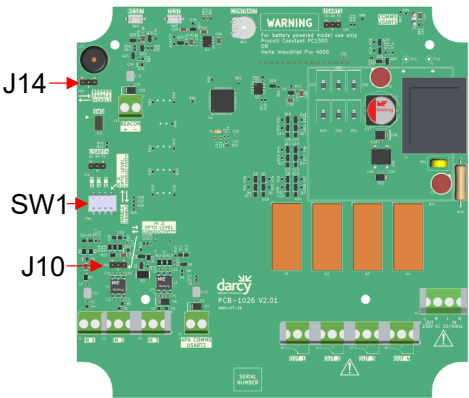

Figure 5: Jumper Link and DIP Switch Settings
7. Ensure the jumper link J10 and SW1, DIP switch 4 are set according to the alarm configuration supplied. See Table 2 and Figure 5.
8. Ensure any unused probe inputs are disabled so they don't cause an alarm. See Figure 5.
Refer to Figure 5 for DIP switch settings to enable/disable probes that are in use.